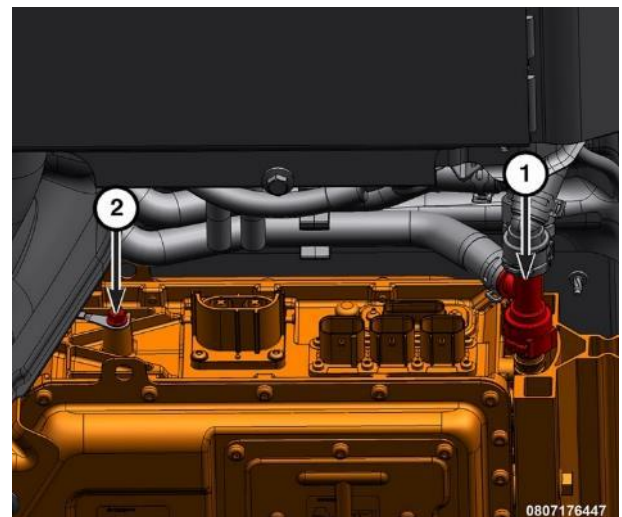

Figure 45 – HV Battery - Primary
- 28. Using suitable container and pliers, clamp the coolant hose and disconnect the coolant line quick-connect fitting (Figure 45).
- 29. Remove the bolt that secures the ground cable (Figure 45).
61. Install the bolt that secures the ground cable. Tighten the bolt to 9 N·m (80 In. Lbs.) (Figure 45).
62. Connect the coolant line quick connect fittings to the primary battery then remove the coolant hose clamp pliers (Figure 45).
63. Connect the low voltage wire harness connector to the primary battery (Figure 45).